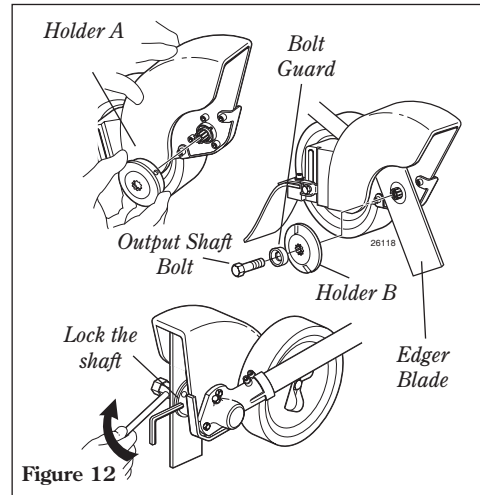

Figure 12
1. Install holder A onto the output shaft. See Figure 12.
2. Mount the edger blade and holder B onto the shaft, and then install the bolt guard and shaft bolt (turn bolt counter-clockwise to install). See Figure 12.
3. Align the hole in holder A with the matching hole in the gearcase, and then use the hex wrench to temporarily lock the output shaft. See Figure 12.
4. Use the combination wrench to firmly tighten the shaft bolt. Remove the hex wrench. See Figure 12.